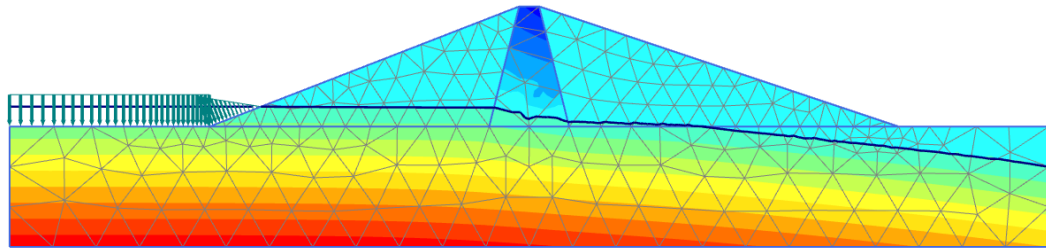

Figure 188: Pore pressure distribution, (p_{active}), for low reservoir level
- The steady-state situation with a low reservoir level is shown in Figure 188 (on page 211).